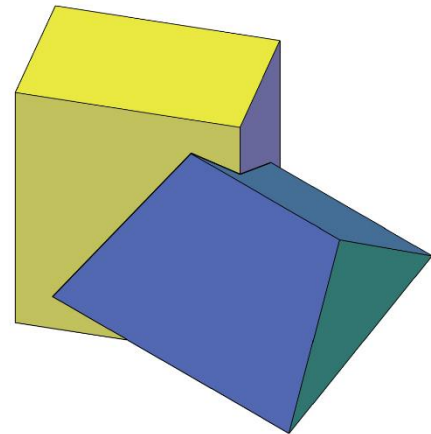
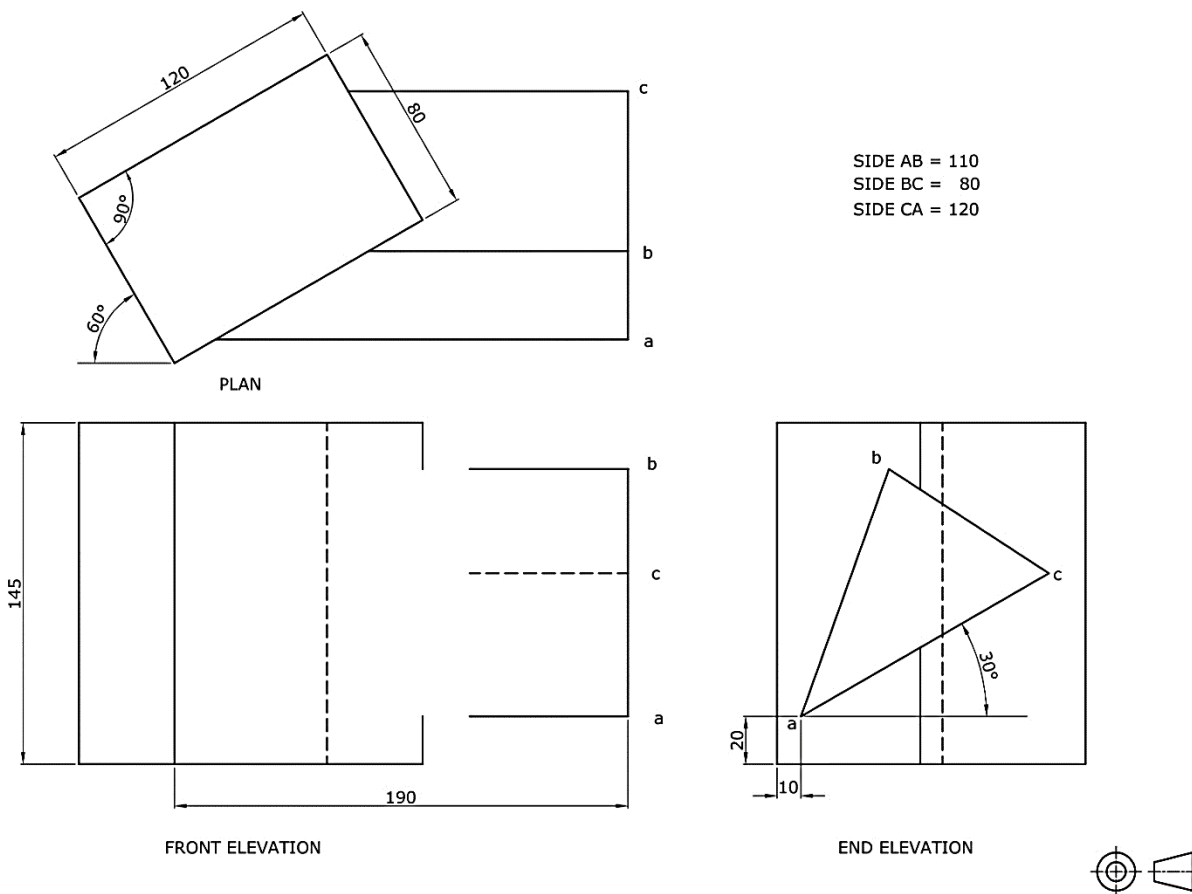

Figure 3a
Figure 3b
Figure 3a and Figure 3b show a right rectangular prism resting on a horizontal plane. The rectangular prism is placed with its 120 mm side at an angle of 30° to the vertical plane. The other side is 80 mm long. A triangular prism is to intersect the rectangular prism as shown. The side AB of the triangle is 110 mm, the side BC is 80 mm and the side CA is 120 mm long at an angle of 30° to the horizontal plane.
- a) Copy, full size, the three views shown in Figure 3b. (3)
- b) Study the pictorial view, noting the contours of the two prisms and label by numbers/letters showing the order and positions of the sequence. Locate the points of intersections. (4)
- c) Show the lines of intersection on the front elevation, between the vertical rectangular prism and the horizontal triangular prism, using bold and dashed lines. (6)